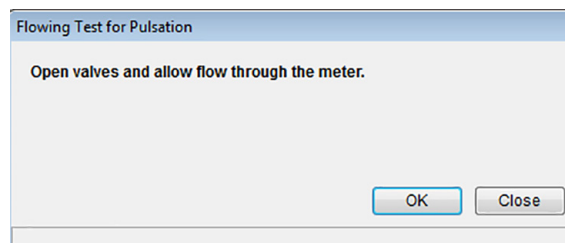

Figure 4.4—Flowing Test for Pulsation test results
3. Upon completion, look for the results in the bottom left corner of the screen, as shown in Figure 4.4.